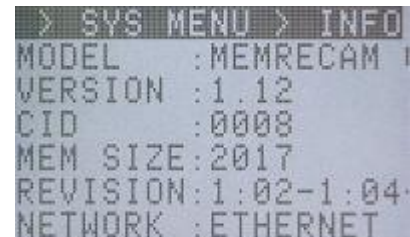

Figure 5-24 INFO
- 3) Use the arrows   to select "INFO" from the SYS MENU and press SET  to display the INFO sub menu (Figure 5-24).